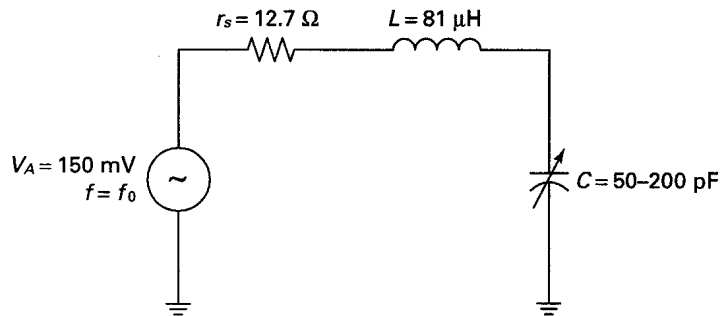

Fig. 1-17
- 1.9** Refer to Fig. 1-17. (a) With  $C$  set to 50 pF, calculate  $f_0$ ,  $X_L$ ,  $Q$ ,  $V_C$ , and BW. (b) With  $C$  set to 200 pF, calculate  $f_0$ ,  $X_L$ ,  $Q$ ,  $V_C$ , and BW.